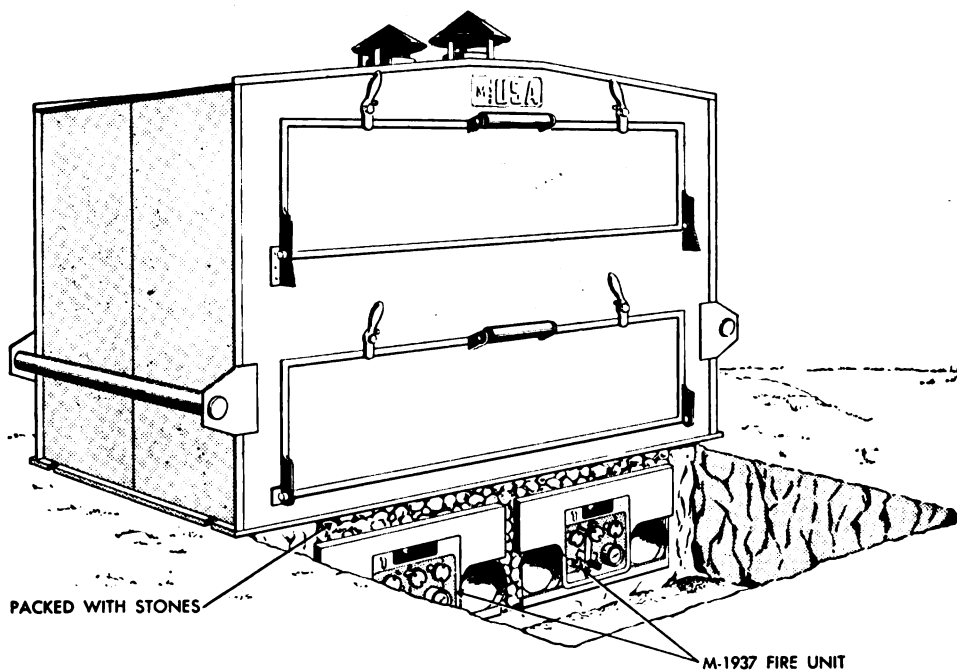

Figure 65. Top half of oven, bake, field, M1942, used with units, fire, M1937.
g. If only the top section of the oven is available, the M1937 fire units may still be used. (See fig. 65.)
(1) Dig a trench 30 inches deep, 4 feet wide, and 6 feet long.